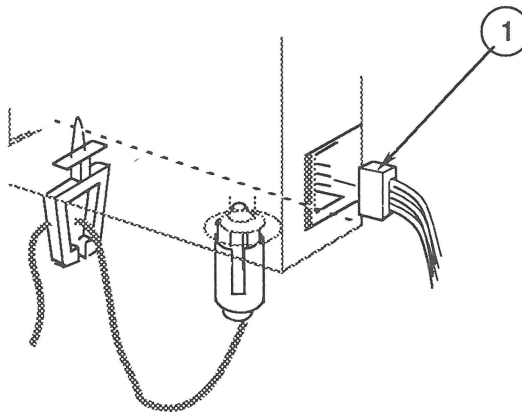

FIGURE 50
6. Set the monitor upright, and reconnect the LED connector (Figure 50, #1) to the bottom of the video board.